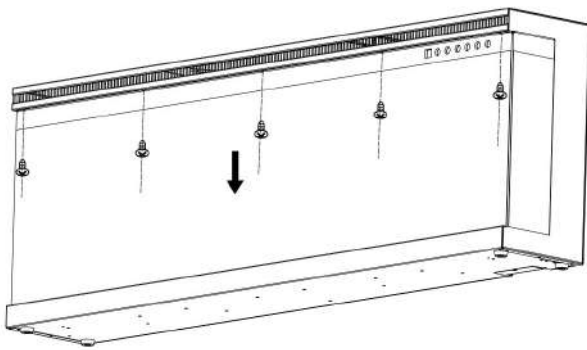

Fig.1-1
- Take off all screws from the top the glass panel. **Fig.1-1**